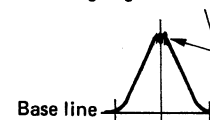

Fig. 1
- Feed in a weak signal to TP102 from the genescope. Adjust T101, T201 for maximum gain and the wave form indicated in Figure 1. If the center of the wave form cannot be lined up on the marker, adjust the right/left balance.